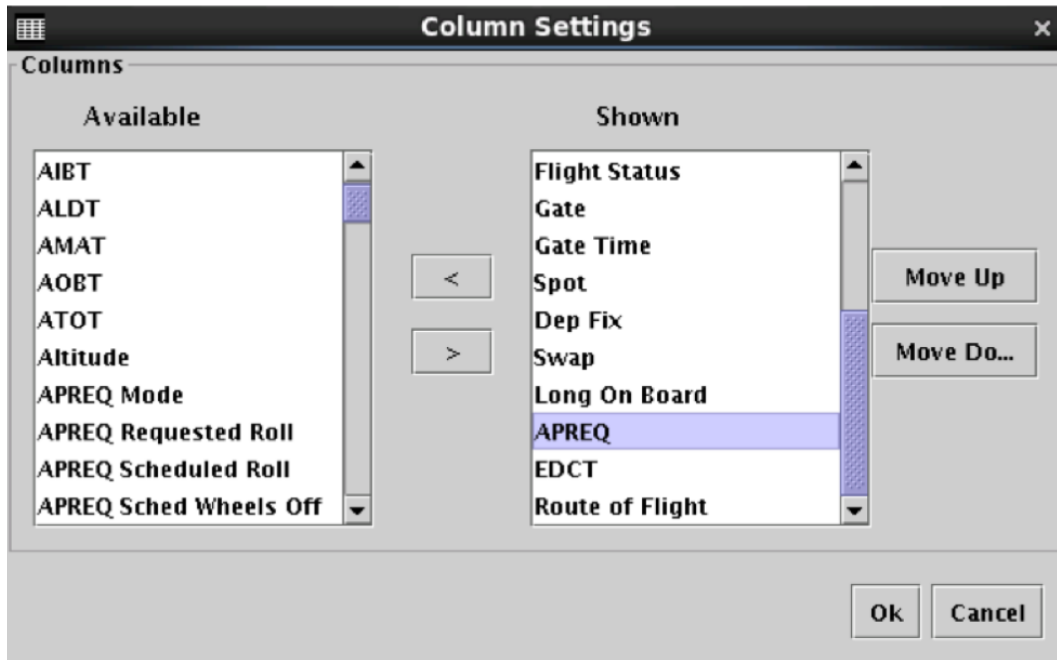

Figure 67. Moving column positions in the Column Settings window.
**Step 2:** Click on either “Move Up” or “Move Down” (Figure 67). A higher position in the “Shown” list results in moving that field to the left in the Flights Table.